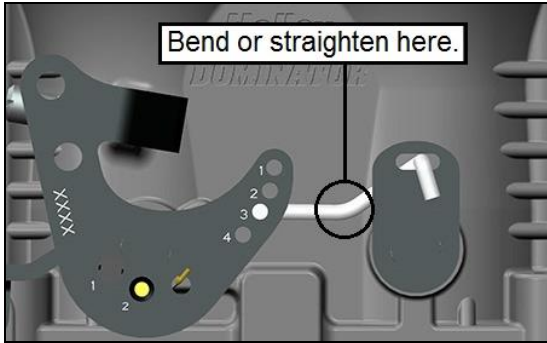

Figure 8a - Progressive
3. Hold the primary and secondary throttle shaft to wide open throttle. If needed, adjust the appropriate link to the proper length by bending or straightening it in the area shown below (**Figures 8a & 8b**) so it fits easily into the proper hole on the primary shaft and into the secondary shaft.